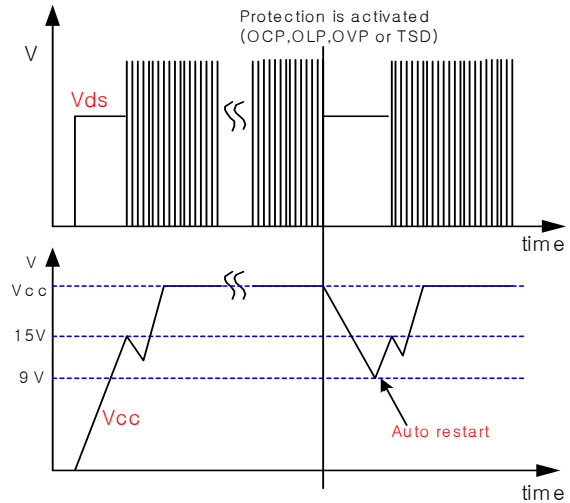

Figure 3. Auto restart operation after protection
3. Protection function : FS8S0965RCB has 4 self protective functions such as abnormal over current protection (AOCP), over load protection (OLP), over voltage protection (OVP) and thermal shutdown (TSD). Because these protection circuits are fully integrated into the IC without external components, the reliability can be improved without cost increase. In the event of these fault conditions, the FPS enters into auto-restart operation. Once the fault condition occurs, switching operation is terminated and MOSFET remains off, which forces V_{cc} to be reduced. When V_{cc} reaches 9V, the protection is reset and the supply current reduces to $80\ uA$. Then, V_{cc} begin to increase with the current provided through the start-up resistor. When V_{cc} reaches 15V, the FPS resumes its normal operation if the fault condition is removed. In this manner, the auto-restart alternately enables and disables the switching of the power MOSFET until the fault condition is eliminated as illustrated in figure 3.